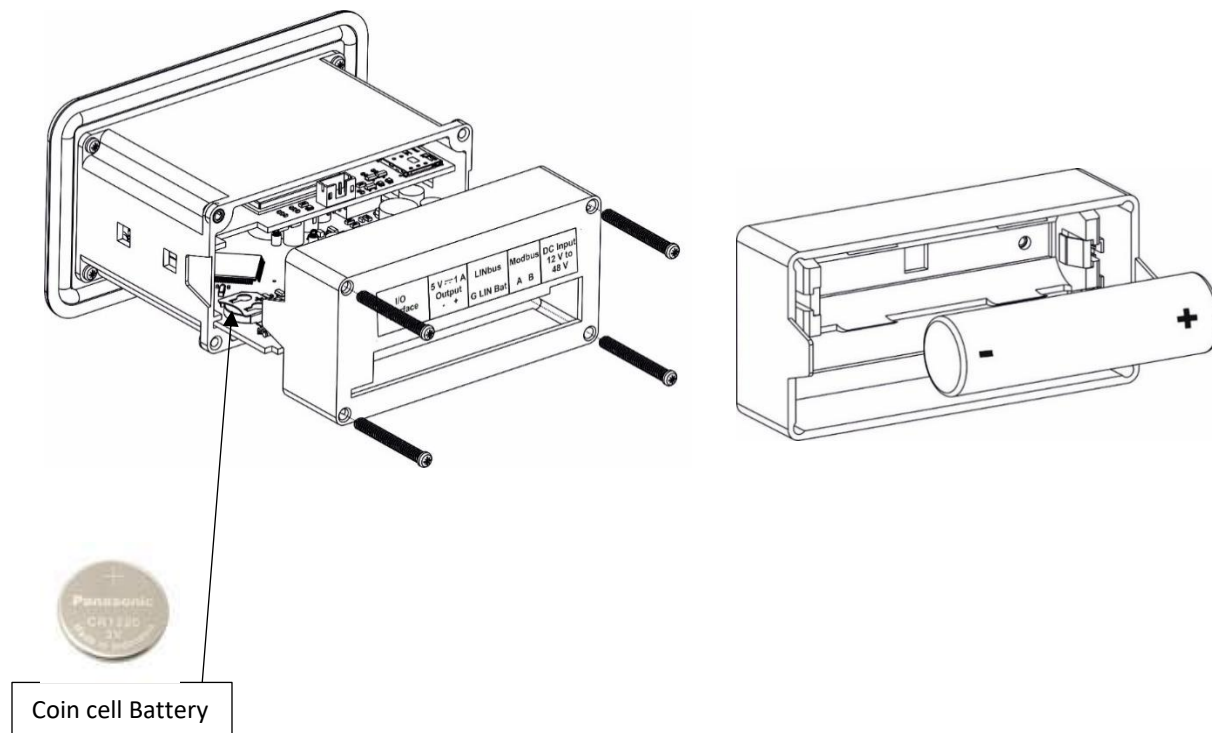

Figure 12 Inserting /Replacing the Battery
- To replace the battery, turn off the power supply and remove the back cover of the data logger, as shown in figure 12.
- To replace the coin cell battery, open the back cover as shown in figure 12.